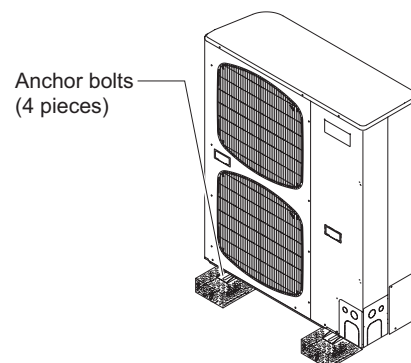

Fig. 1-6
- provide a solid base (concrete block, 4"×16" beams or equal), a minimum of 6" above ground level to reduce humidity and protect the unit against possible water damage and decreased service life. (Fig. 1-6)